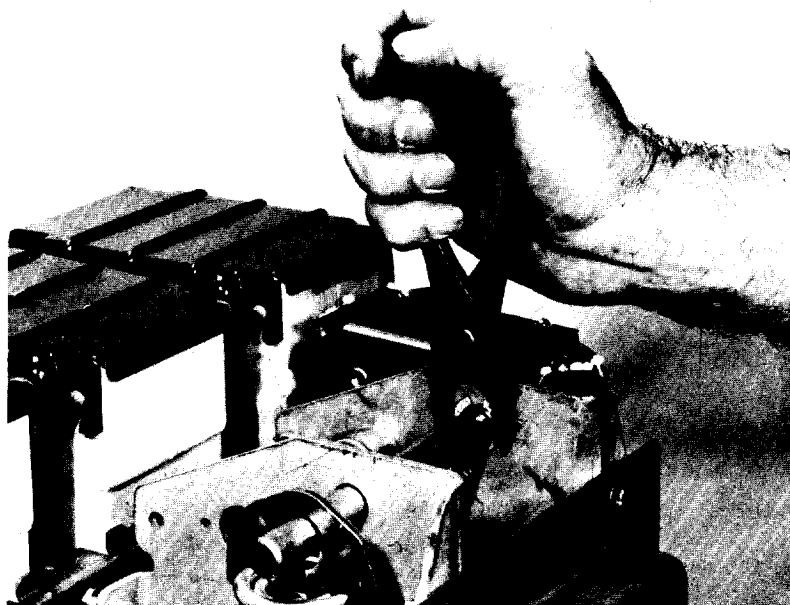

FIG. 15
15. Secure the spring pin with the two squeeze rings, (see figure 15).